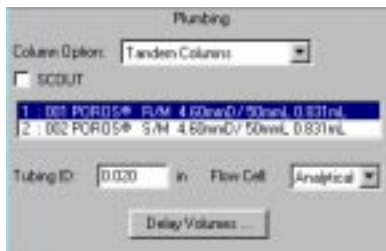

Figure 4-7 Column Plumbing Configuration
2. Select a **column plumbing option** from the Column Option drop-down list box (Figure 4-7). Choices are: